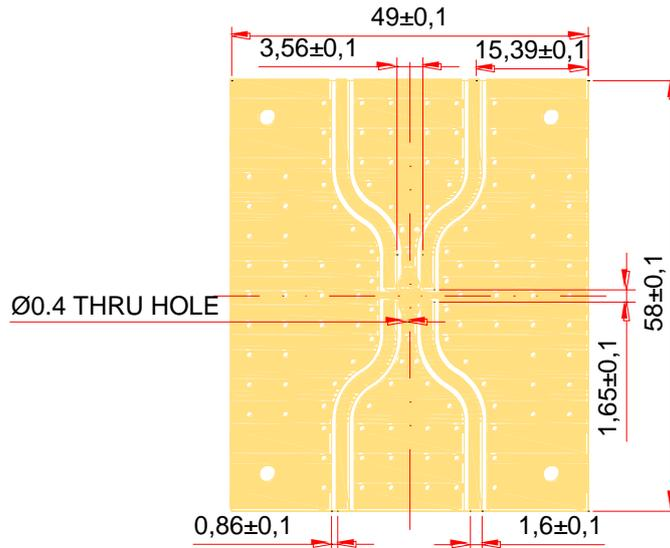

Figure 6. RN2 Test Board Layout
**Figure 6** shows the RN2 test board layout used for testing the CMX09E03 RF performance. The RN2 test board is based on the Taconic RF35 board with the dielectric constant of 3.5, board thickness of 0.8 mm, and copper of 1 Oz.
We recommend that you use the same material and design layout, as shown in **Figure 6**, to meet the specifications in this datasheet. However, if you use different materials, you must follow the basic guidelines. See ‘RECOMMENDED PCB LAYOUT AND SOLDER MASK PATTERN’ for more details.